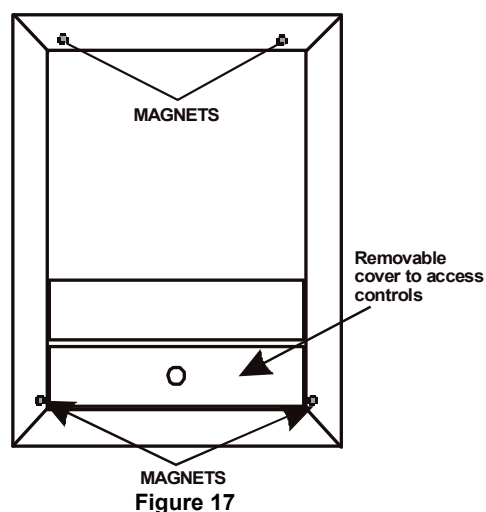

Figure 17
2. The fascia is held on by four magnets. These will either be attached to the trim or supplied loose in a separate envelope. Position them as shown in **Figure 17**.